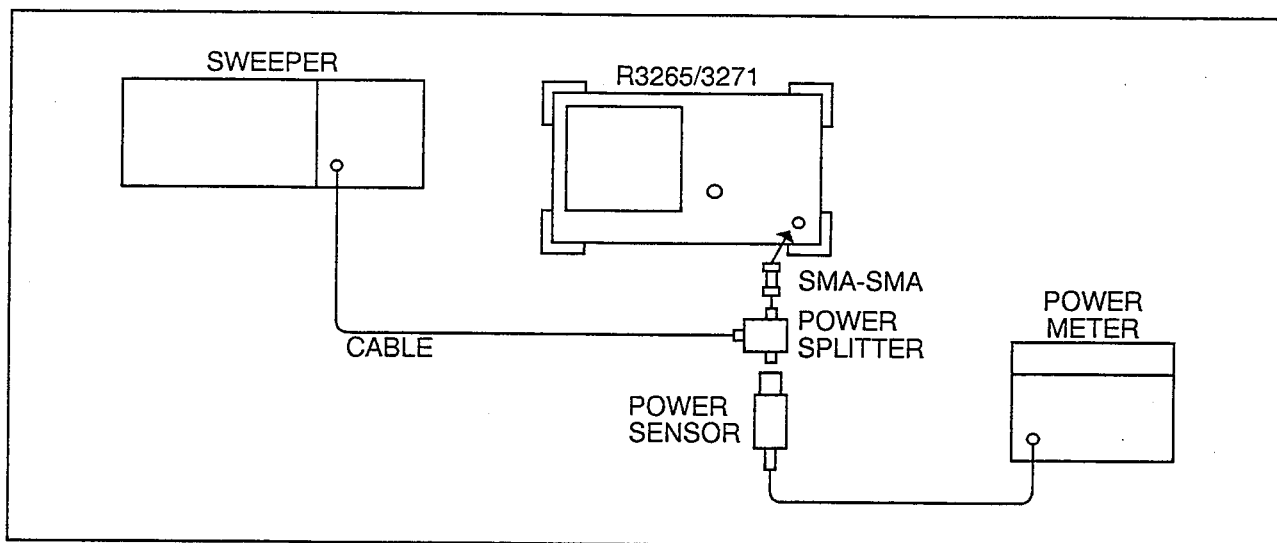

Figure 4-14 Frequency Response Test Setup
- (1) Zero and calibrate the power meter.
- (2) Connect the equipment as shown in Figure 4-14.
- (3) Press the INSTR PRESET key on the sweeper. Set the sweeper controls as follows: